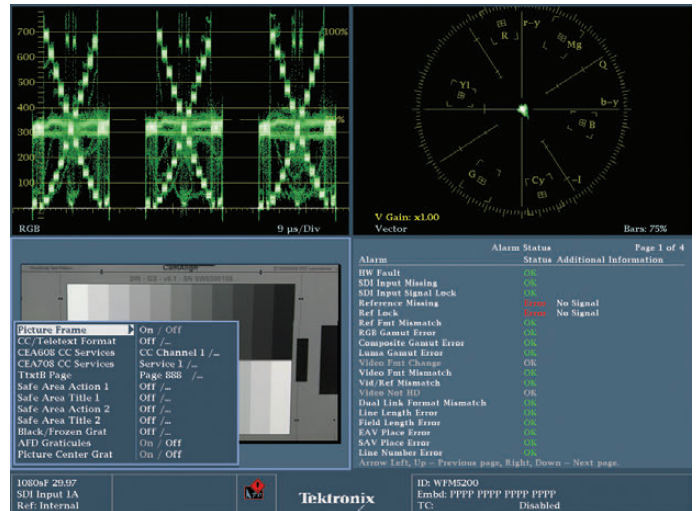

Figure 6-6. Steps 10-13 of “Creating a Preset” end with recalling and editing the options for the Picture display.
13. If you want to customize your picture monitor, hold down the PICT button for 2 seconds and use the arrow keys and General dial to choose your menu selections (Figure 6-6).